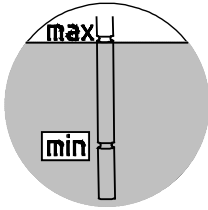

Fig. 21: Checking the oil level with a dipstick
4. **Gear units with an oil level tank:** The oil level must be checked in the oil level tank with the aid of the dipstick plug (thread G1 1/4). The oil level must be between the upper and lower marking when the dipstick is fully screwed in (see Fig. 21). Top up the oil level with the relevant type of oil as necessary. These gearboxes may only be operated in the configuration stated in Section 6.1 "Configurations and maintenance".